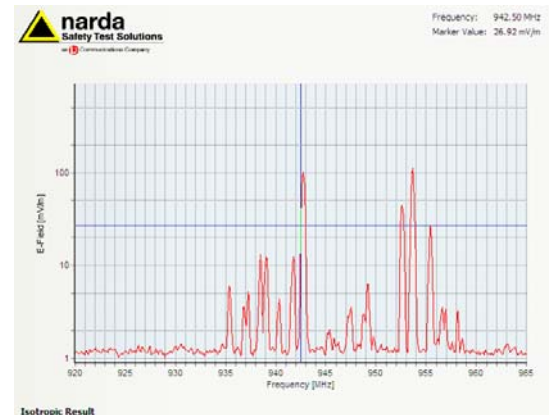

Figure 1: GSM-900 band overview measurement
- Operating mode: **Spectrum Analysis** as in figure 1